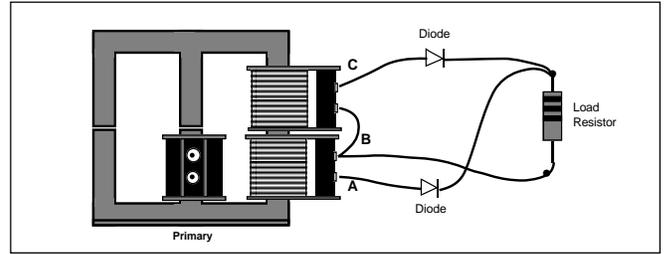

Figure 6
- Now we will make the difference in waveforms useful to us. Connect two diodes into your apparatus as shown in Figure 6. How does the waveform across the load resistance look? How does it differ from the waveforms you have seen in previous steps? Is this still alternating current, or is it directional (direct) current?